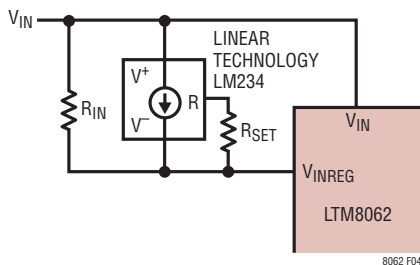

Figure 4. MPPT Temperature Compensation Network
In the circuit shown in Figure 4,
As the temperature coefficient for  $V_{MP}$  is similar to that of  $V_{OC}$ , the specified temperature coefficient for  $V_{OC}$  (TC) of  $-78\text{mV}/^{\circ}\text{C}$  and the specified peak power voltage ( $V_{MP}(25^{\circ}\text{C})$ ) of 17.6V can be inserted into the equations to calculate the appropriate resistor values for the temperature compensation network in Figure 4. With  $R_{SET}$  equal to 1k, then: